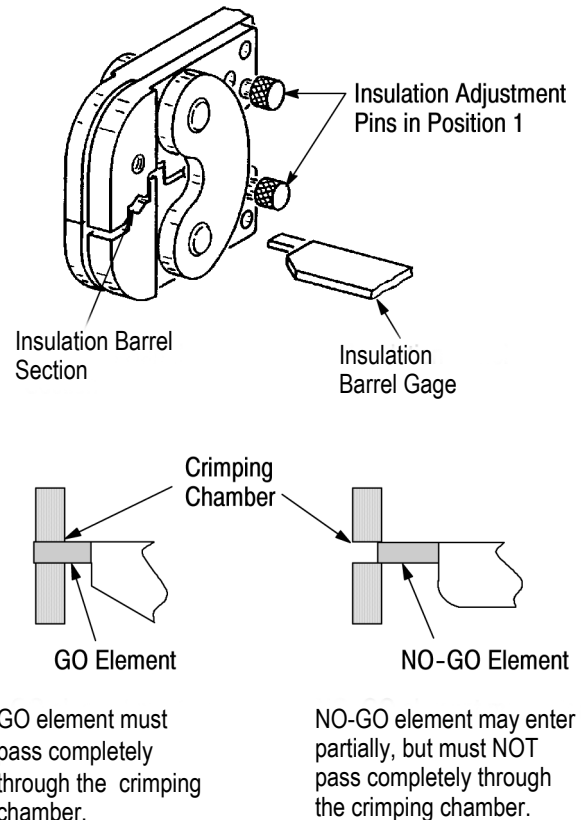

Figure 6
2. Align the GO element of the wire barrel crimp plug gage with the wire barrel section of the crimping chamber. Push element straight into the crimping chamber without using force. The GO element must pass completely through the crimping chamber, as shown in Figure 6, Detail A.
3. Align the NO-GO element and try to insert it straight into the same crimping chamber. The NO-GO element may start entry, but must not pass completely through the crimping chamber. See Figure 6, Detail A.
5. Check the insulation barrel section of the crimping chamber using the insulation crimp plug gage in the same manner as in Steps 2 and 3. See Figure 6, Detail B.